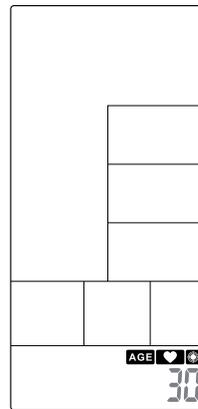

Figure 45
2. The AGE value will flash. Use the “UP” and “DOWN” buttons to set your age (see Figure 45). Press “ENTER” to confirm. The buzzer will sound for 1 second, and the HEART RATE icon will remain lit.